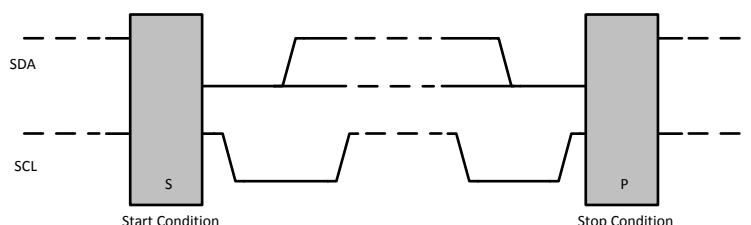

Figure 29. I²C Start and Stop Conditions
The LM36923H is configured via an I²C interface. START (S) and STOP (P) conditions classify the beginning and the end of the I²C session Figure 29. A START condition is defined as SDA transitioning from HIGH to LOW while SCL is HIGH. A STOP condition is defined as SDA transitioning from LOW to HIGH while SCL is HIGH. The I²C master always generates the START and STOP conditions. The I²C bus is considered busy after a START condition and free after a STOP condition. During the data transmission the I²C master can generate repeated START conditions. A START and a repeated START conditions are equivalent function-wise. The data on SDA must be stable during the HIGH period of the clock signal (SCL). In other words, the state of SDA can only be changed when SCL is LOW.